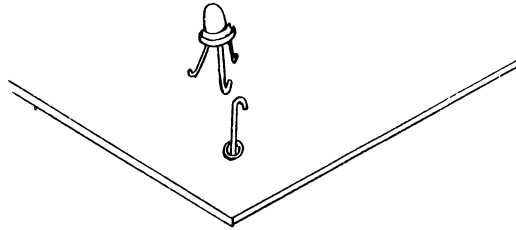

Figure 3-9
- b. Bend the transistor leads and leads remaining on the card as shown in Figure 3-9.